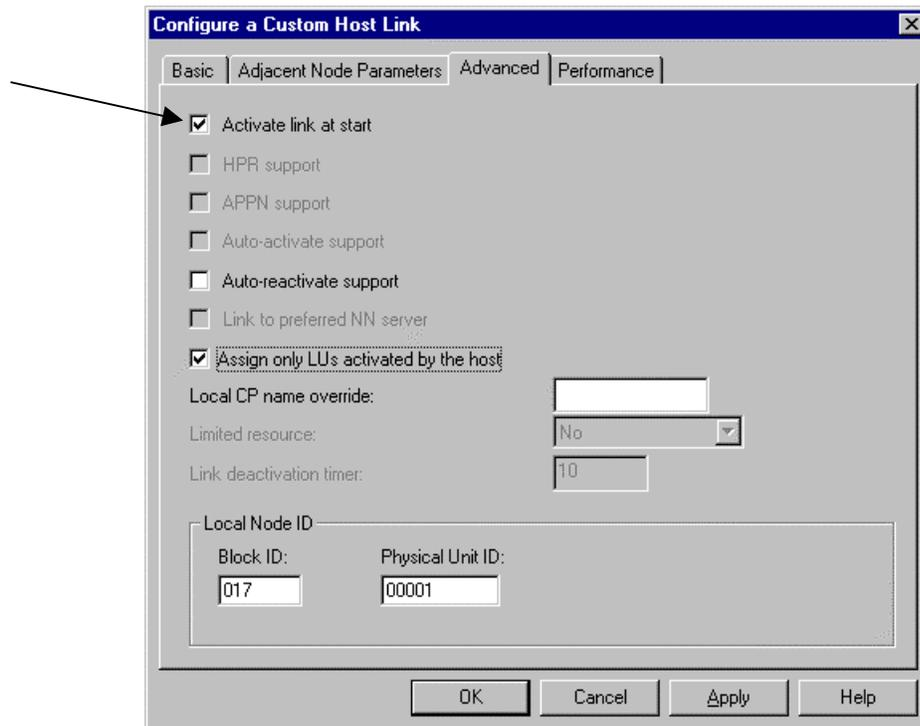

Figure 15-22. Activate Link at Startup
5. On the Advanced page (Figure 15-22) verify that the adapter is configure to activate at system startup.